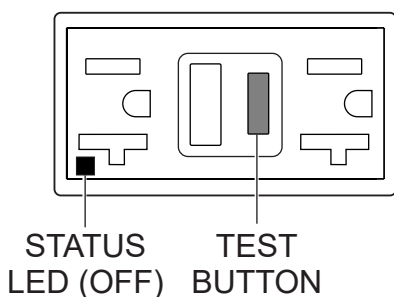

Figure 76. GFCI Receptacle (OFF)
4. Press the **TEST** button (Figure 76) on the GFCI receptacle and verify that the status LED turns **OFF**.